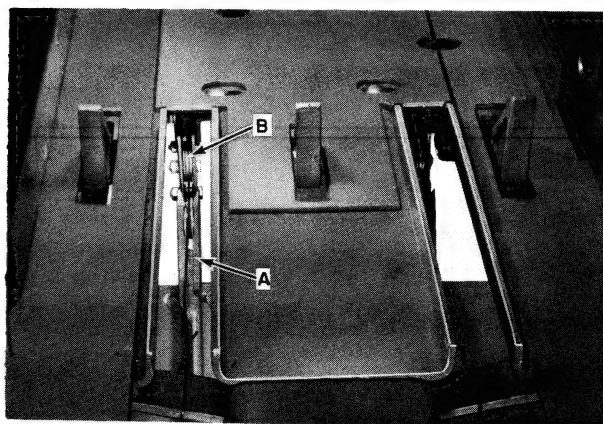

FIGURE 110
The roller in the wire guide, B, Figure 110, should align with the roller in the needle, A. This can be adjusted by moving the guide sideways as required.
- a. When standing at the rear of the machine looking forward, the rollers in the wire guide assembly (under bale chamber) should be in line with the rollers in the tips of the needles. See Figure 110.